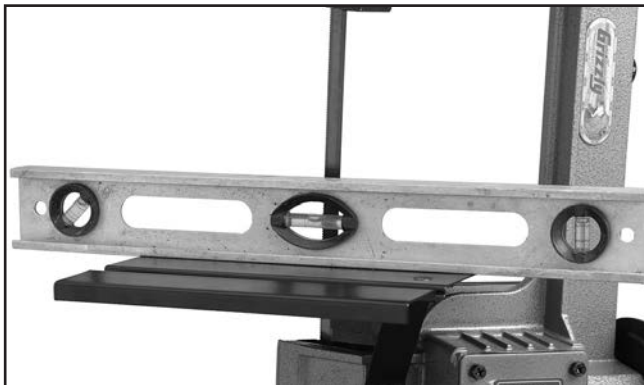
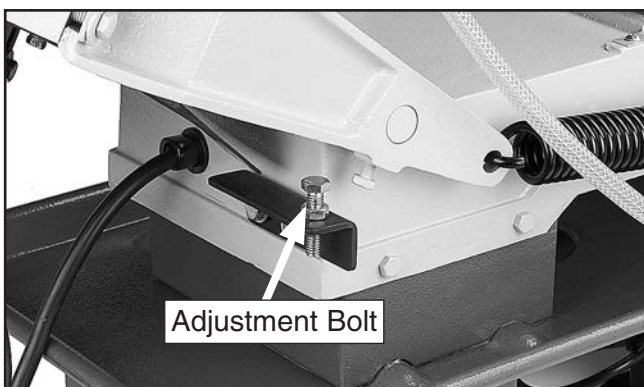

Figure 59. Example of leveling table.
Figure 60. Location of adjustment bolt.
- Place level on table, as shown in **Figure 59**, and turn adjustment bolt shown in **Figure 60** until table is level.